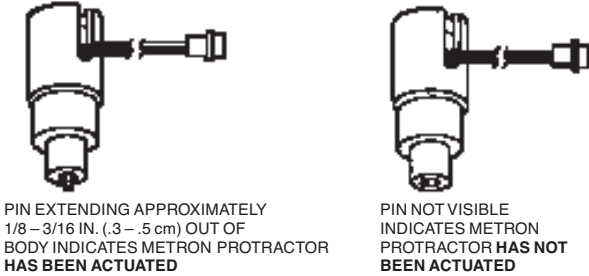

FIGURE 10
5. Discard used METRON PROTRACTOR assembly. A discharged METRON PROTRACTOR will have the stainless steel pin extending approximately 1/8 – 3/16 in. out of the bottom. On a new METRON PROTRACTOR, the pin will not be visible. See Figure 10.